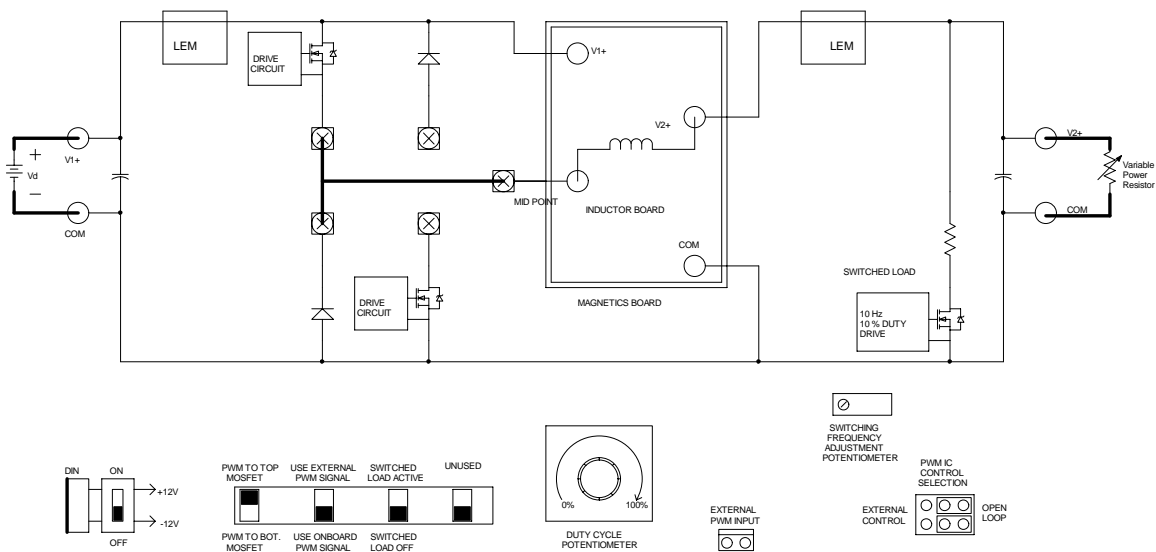

Figure 8.1: Buck Converter Using Power-pole board
Construct the buck converter circuit as shown in Fig. 8.1 using the BB magnetics board.
- Switch the switched load OFF as shown in Fig. 8.1.